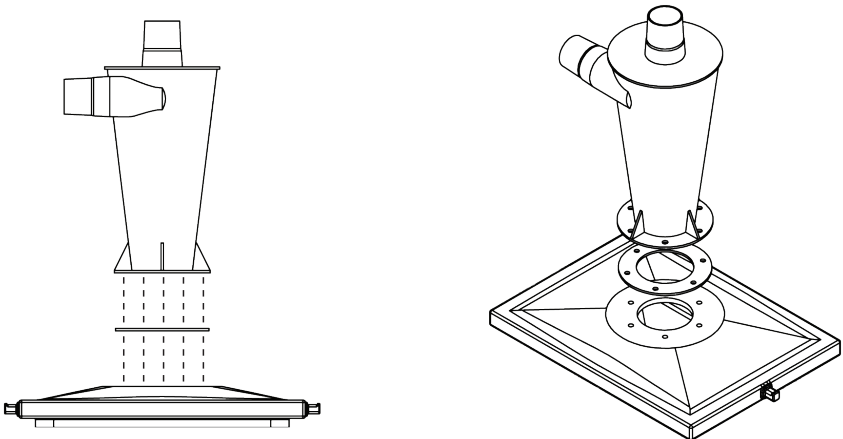

FIG. 7
- 7** Place Cyclone Gasket (G1) on top of the Dust Bin's Lid (B), making sure to line up the bolt holes in the gasket with the threaded inserts on the lid [FIG. 7].